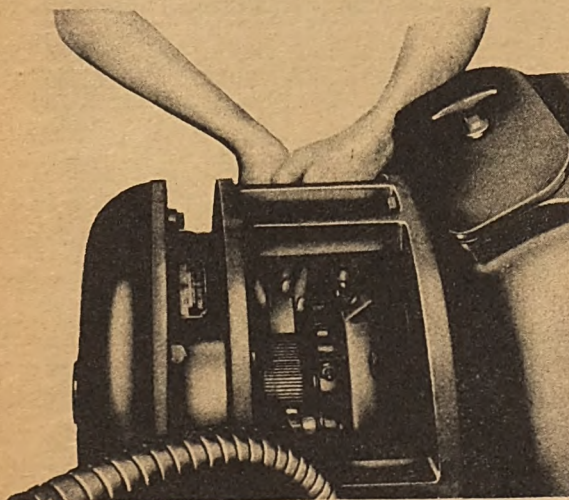
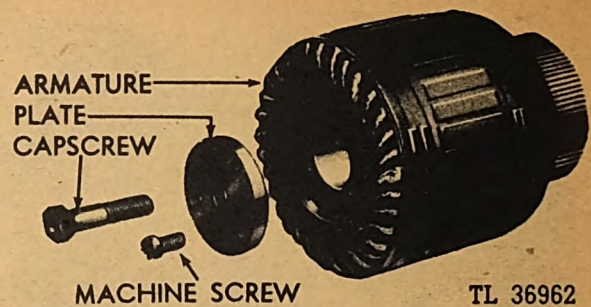

Fig. 309. Commutator Being Stoned
Fig. 310. Exciter Armature and Commutator
**99. Commutator.** If the commutator is too rough or eccentric to be stoned down successfully by hand (See Figure 309), disassemble the alternator and exciter. The whole rotor assembly should be placed in a lathe and the commutator turned down to restore a smooth and true surface. (See Figure 310.) (The exciter should be installed on its own portion of